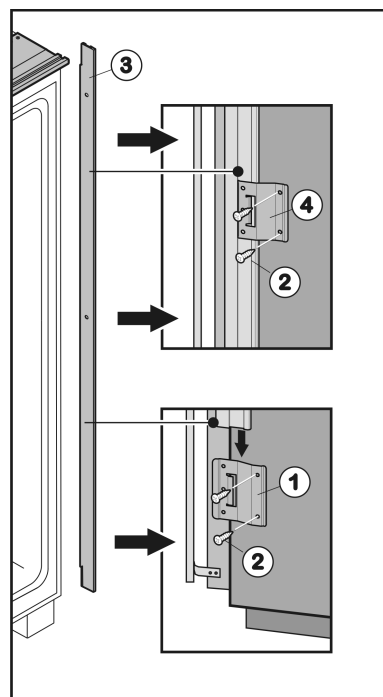
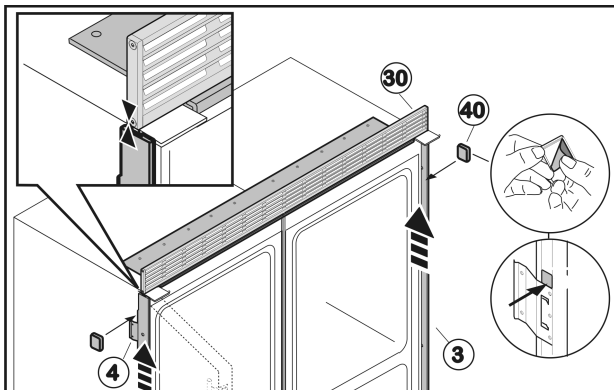

Fig. 41
Fig. 51
- Unscrew retaining plates Fig. 41 (1,4) and remove rail Fig. 41 (3).
- Fit retaining plate Fig. 41 (1) to the lower part of the hinge side by inserting two screws Fig. 41 (2) into the pre-cut holes.
- Slide rail Fig. 41 (3) into the retaining plate Fig. 41 (1) from above.
- Push second retaining plate Fig. 41 (4) onto the rail from above and screw onto the center of the side wall.
- Push third retaining plate Fig. 41 (4) onto the rail from above and screw onto the top part of the side wall.
- Remove adhesive tape from the side installation strip Fig. 51 (3).
- Push installation strip Fig. 51 (3) upwards until it is touching the ventilation grille Fig. 51 (30).
- Glue the adhesive plates Fig. 51 (40) above the retaining plate Fig. 41 (1) and the retaining plates Fig. 51 (4) respectively to the installation strip Fig. 51 (3) such that it cannot slide downwards.